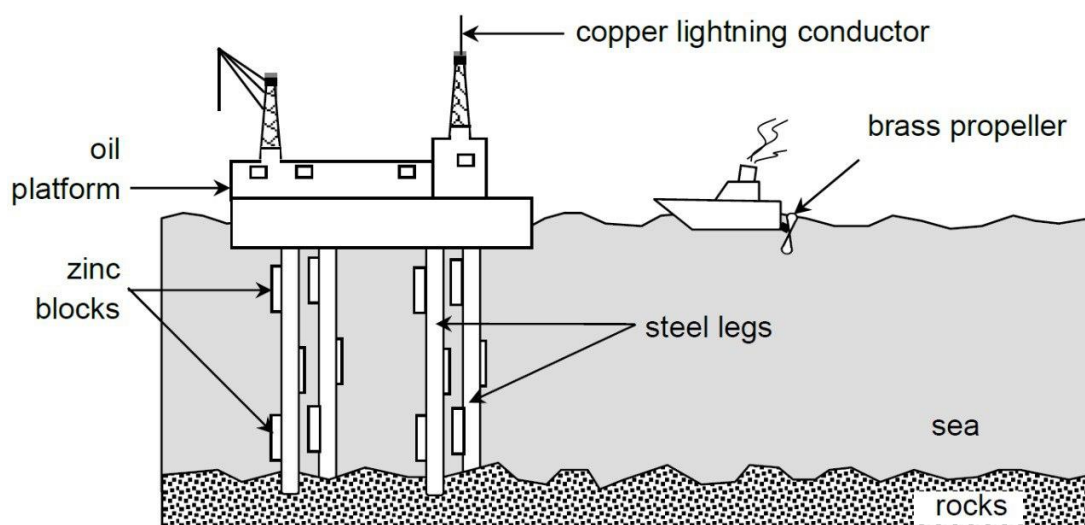

Fig. 9.1
- 9 (a) Fig. 9.1 shows some uses of metals in the oil industry.